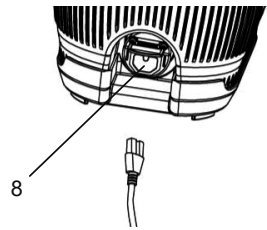

Fig.3
2. Attaching the power lead (Fig 3)